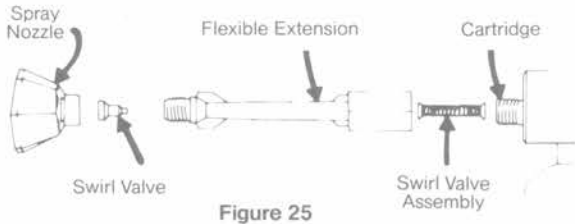

Figure 25
2. Remove spray nozzle from flexible extension. Remove swirl valve. Remove flexible extension and swirl valve assembly in cartridge. See Figure 25.